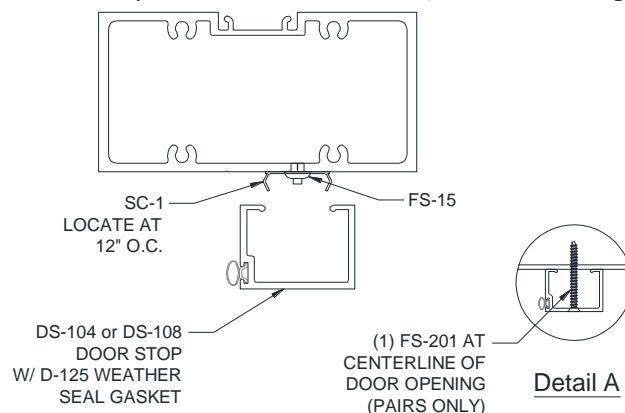

Figure 21: Installing COC Header Door Stop
- 9.2.4 Secure Door Stop with **FS-201** Fastener, as shown in *Figure 21, Detail A*.